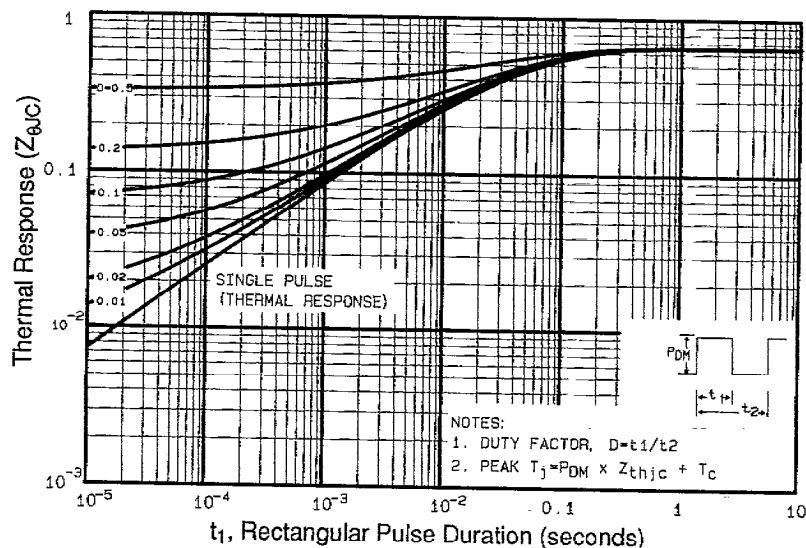

Fig 11. Maximum Effective Transient Thermal Impedance, Junction-to-Case
- ① Repetitive rating; pulse width limited by max. junction temperature (See Figure 11)
- ② $V_{DD}=50V$, starting $T_J=25^\circ\text{C}$, $L=683\mu H$